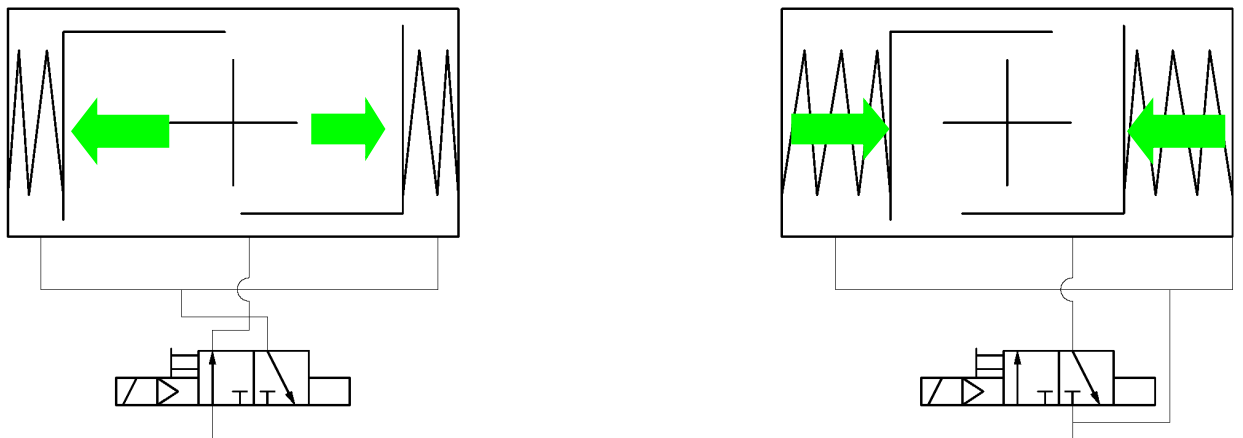

Fig. 2: Schematic diagrams for single-acting actuators EB SYS
- ▶ single-acting actuators with spring reset EBx.1 SYS are shown in Fig. 2.
Spring-reset actuators are to be fed only via the **right connection**; see fig. 2